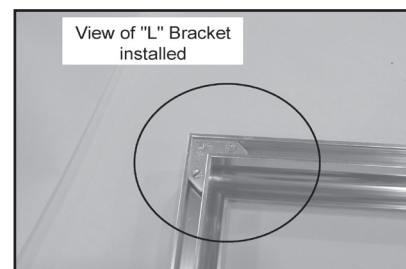

Figure 22.4
2. Assemble the trim with the (2) corner brackets provided (**Figure 22.4**).